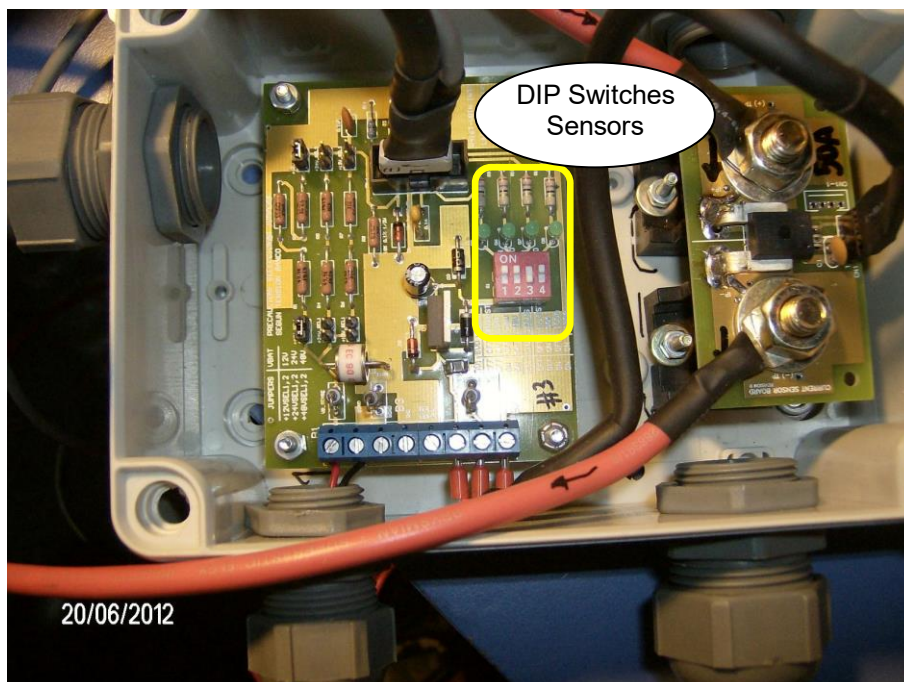

Figure 9 – Sensor module for set for 48 V and 50 A current, and DIP Switches configured, connected to a PWRC2
V.1.a) Status of the sensor configuration DIP switches. This is required because the calibration constants that are loaded to read the voltage and current channels will depend on the configuration of the DIP switches on the sensor board (Figure 9). The user can change the constants via the Firmware when a different type of sensor is deployed. Furthermore, the selection of the default voltage values for each test level and the test voltage thresholds depend on the voltage DIP settings.